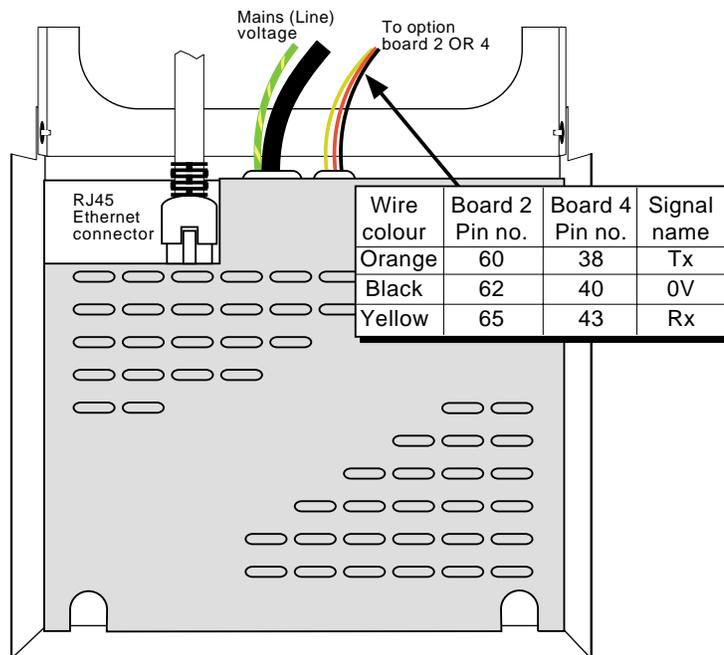

Figure 8.1 Ethernet unit wiring details
- a Check the integrity of the wiring between the Ethernet unit (in the recorder rear terminal cover) and the recorder back plate (Figure 8.1).